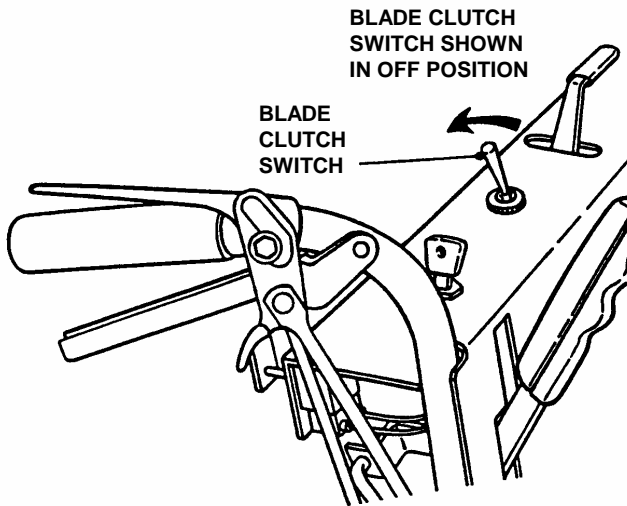

FIGURE 3.8
14. Pull the Blade Clutch Switch backward to the **OFF** position. See Figure 3.8.
15. Place the Transmission Shift Lever into the **NEUTRAL (N)** position.
17. Stop engine. Turn key switch to "OFF" position. See Figure 3.8.